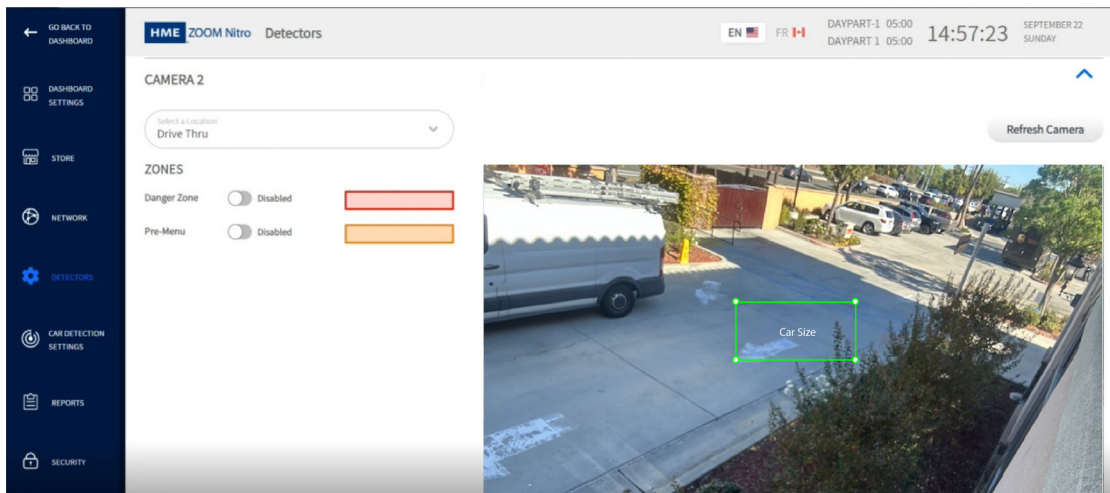

Fig. 18
5. With the Camera Preview now displayed (Fig. 18), determine if the view is good enough to draw zones. If not, the camera angle will need to be adjusted. After each adjustment use the “Refresh All Cameras” button for the preview image to update to the newly adjusted angle.